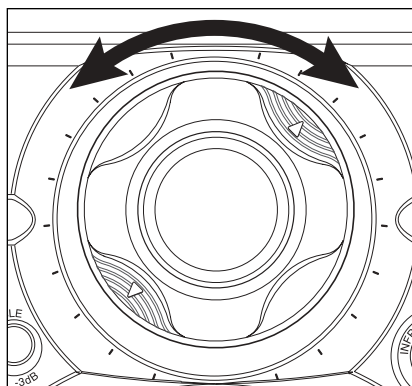

Figure 18
2. Rotate the tweeter housing either clockwise or counter clockwise as required. The mechanism is indexed at equal intervals so that both speakers in a pair can be adjusted equally. Simply count the number of "clicks" as the first tweeter is adjusted. Repeat the process for the second speaker, rotating the tweeter the same number of "clicks" in the opposite direction (See Figure 18).